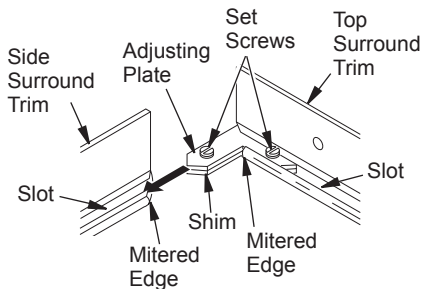

Figure 21 - Assembling Surround Trim
- Align shim under adjusting plate as shown in Figure 21.
slot of top surround trim (see Figure 21).
- Slide other end of adjusting plate/shim in slot on mitered edge of side surround trim (see Figure 21).